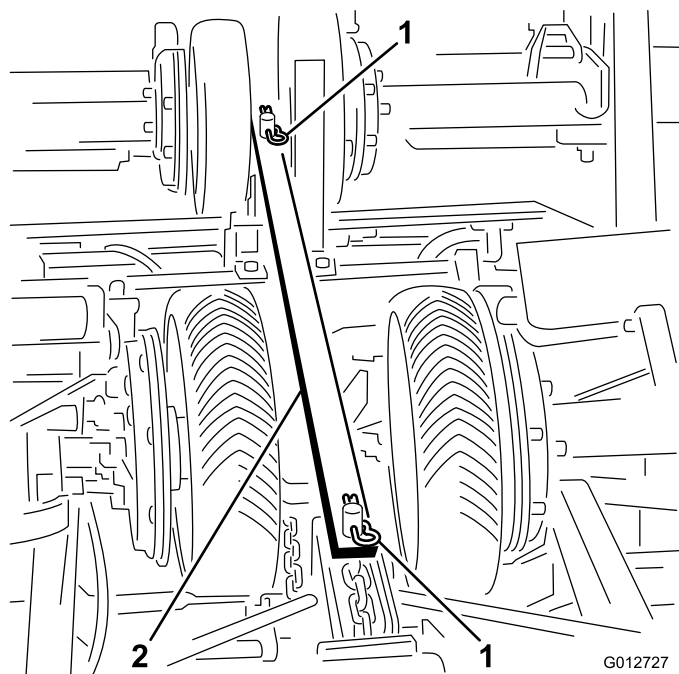
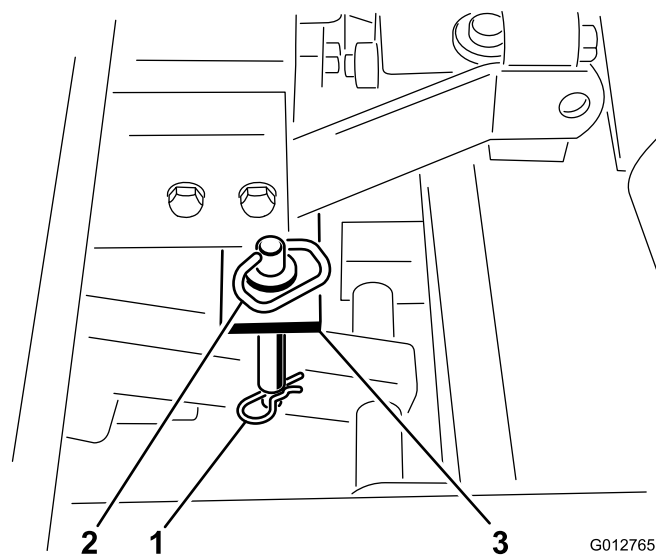

Figure 20
Figure 22
2. Remove hairpin cotters securing transport strap to center frame channel and lift off strap (Figure 20).
4. Remove hairpin cotter securing lockup pin to center cylinder rest (Figure 22).
6. When mowing is to be resumed, remove transport strap from lift arms. Store on center frame channel and secure with hairpin cotters (Figure 20). Remove lockup pin secured to lockup bracket and secure to cylinder rest with hairpin cotter (Figure 22).